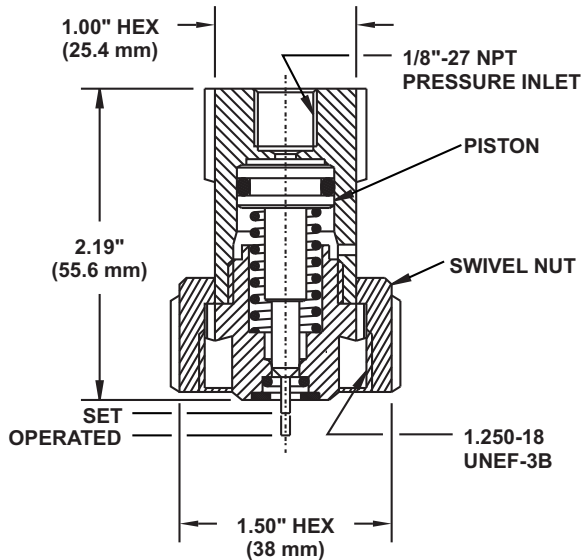

Figure 4-16. Pressure Operated Control Head
1. Remove the protection cap from the cylinder actuation port (see Figure 4-16).